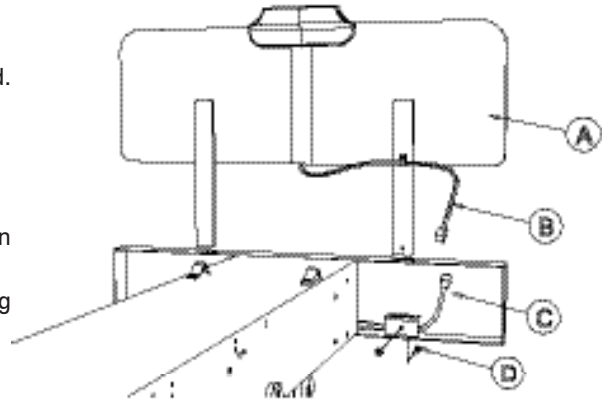

Figure 2.3
- _____ Inspection of all fasteners (bolts, locknuts and screws). Tighten if necessary. Pay special attention to the pivot points of the Hi-Lo levers of the bed. Specific torque must be applied when tightening the fasteners of these pivot points. Refer to figure 2.3 of the Maintenance Manual.